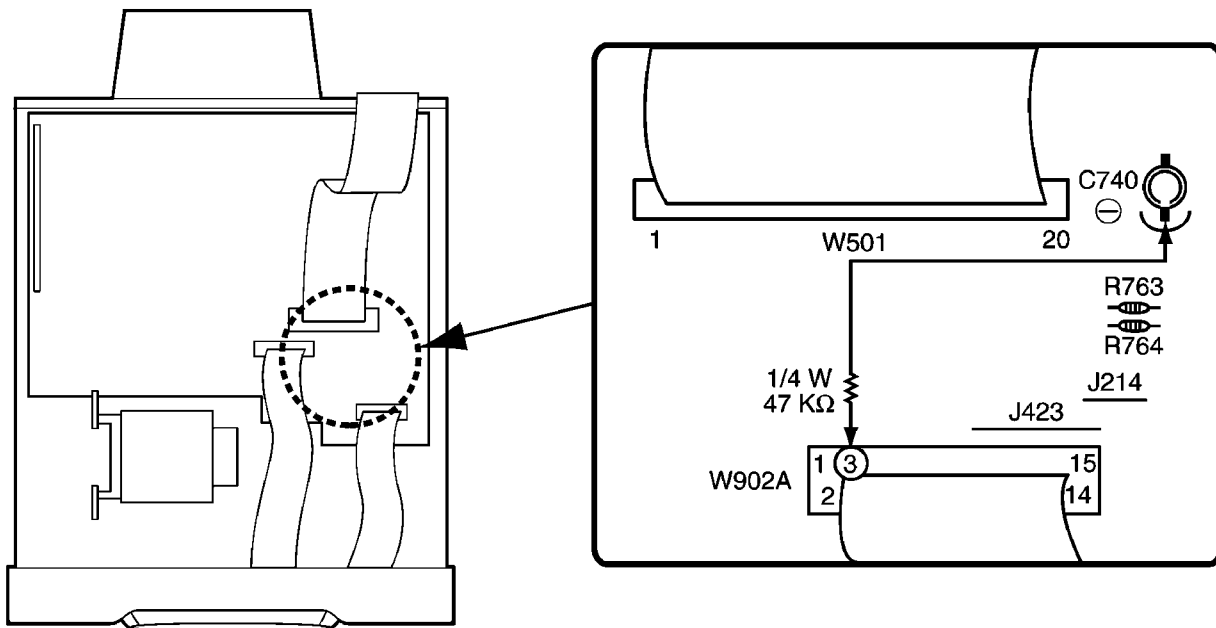

Fig. 6-2.
1. Short the section between **W902A Pin 3** and **C740 (-) (GND)**. (Refer to Fig. 6-2.)